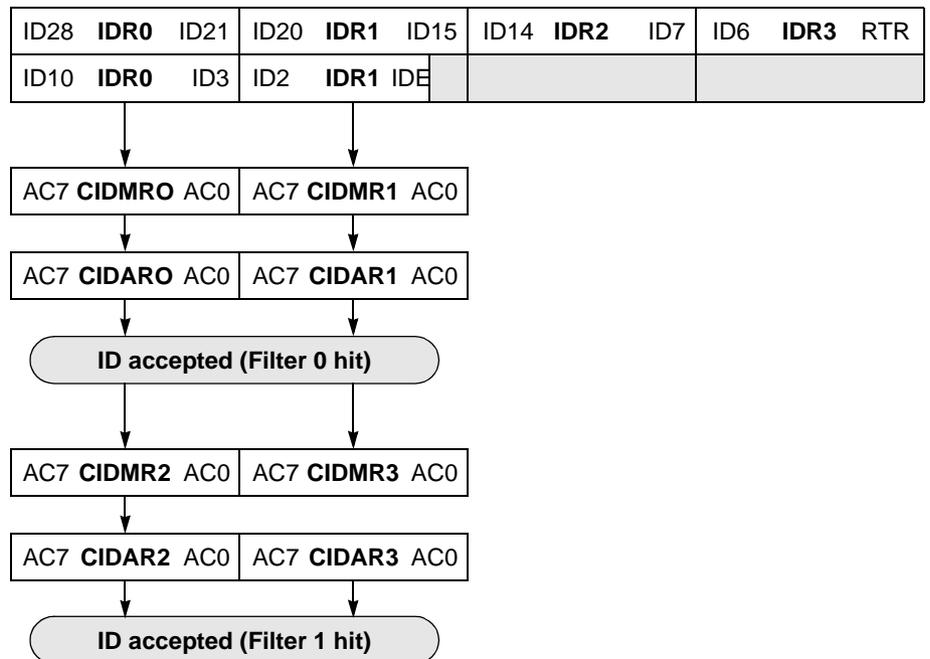

Figure 45 16-bit Maskable Acceptance Filters
- Four identifier acceptance filters, each to be applied to a) the 14 most significant bits of the extended identifier plus the SRR and IDE bits of CAN 2.0B messages or b) the 11 bits of the standard identifier, the RTR and IDE bits of CAN 2.0A/B messages. Figure 45 shows how the first 32-bit filter bank (CIDAR0–3, CIDMR0–3) produces filter 0 and 1 hits. Similarly, the second filter bank (CIDAR4–7, CIDMR4–7) produces filter 2 and 3 hits.